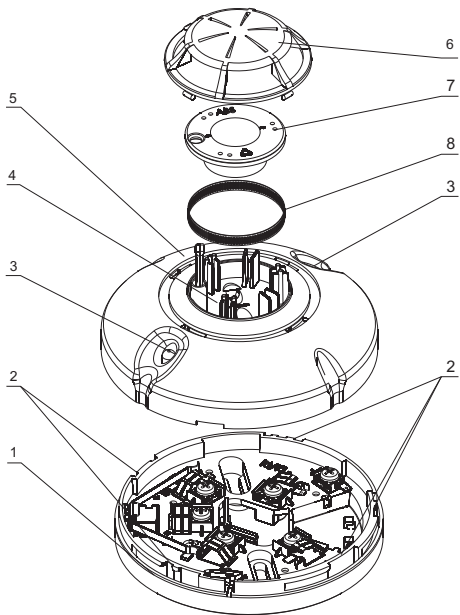
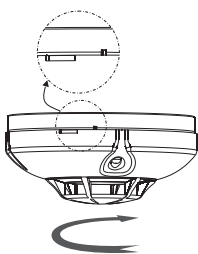
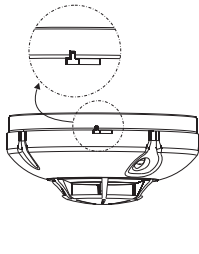

Fig.1
Fig.3.1
Fig.3.2
The circuit board and the optic chamber (Fig.1, position 4) are mounted within the plastic body (Fig.1, position 5). Two LEDs, (Fig.1, position 3), offering 360° visibility, illuminate to indicate the following:
3. Replace the detector head on the base and rotate it in a clockwise direction to reach the base's leading channels (Fig.1, position 2). Continue rotating in a clockwise direction to complete location (Fig.3.1). The bench marks of the head and the base should fully coincide (Fig. 3.2).
2. Wait until the fire detector is set to Duty Mode and exert influence on the fire detector by smoke generator or another device with aerosol simulator of smoke to test the smoke part and from a 20 cm distance - using a heat tester to test the heat part. Within 40 seconds the fire detector shall enter fire condition and the LEDs (Fig.1, position 3) shall illuminate continuously.
To complete task 3 remove the head (Fig.1, position 6) and the chamber's upper part (Fig.1, position 7). Clean using a small brush. The chamber's upper part can be detergent washed, rinsed and dried.